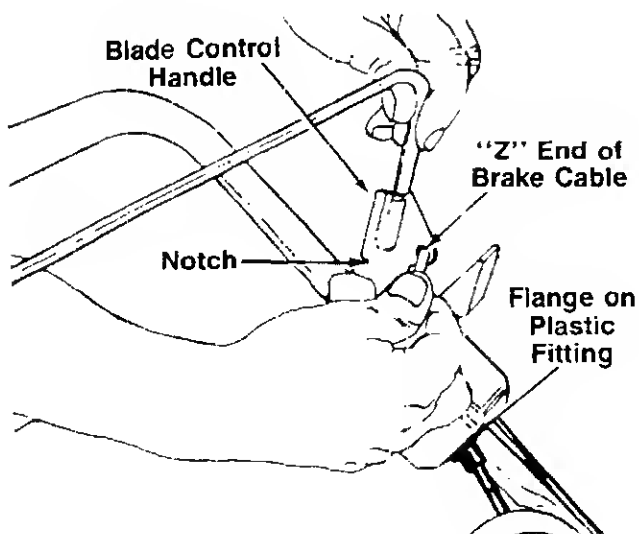

FIGURE 5.
3. Hook the "Z" end of the brake cable into the hole in the blade control handle from the inside to the outside as shown in figure 5. If additional slack is needed in order to hook the cable into the handle, proceed as follows.
- a. Hook the "Z" end of the cable into notch provided in the blade control handle. See figure 5.